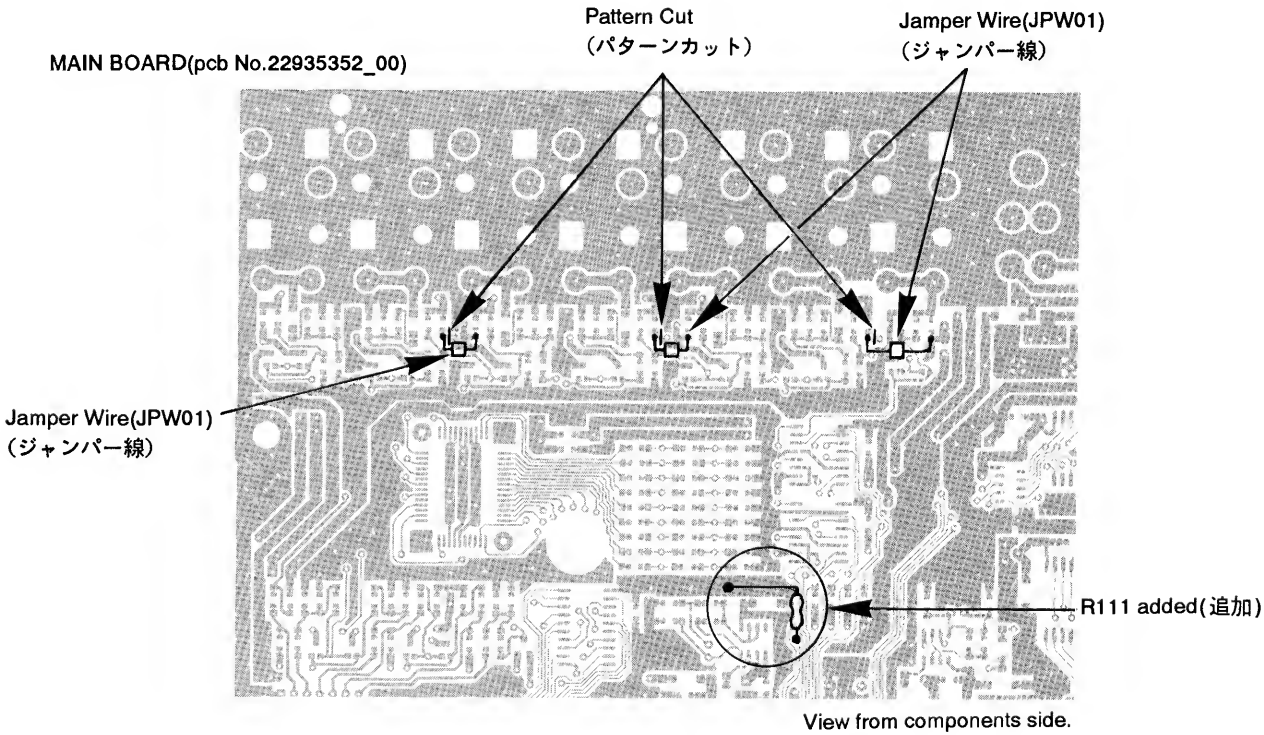

Fig.1.(図1)
- A wiring pattern was cut. (See Fig.1)
- A jumper wire was added. (See Fig.1)
R111 4.7K Ω (See Fig.1)
- パターンカット (図1参照)
- ジャンパー線後付け (図1参照)
R111 4.7K Ω (図1参照)